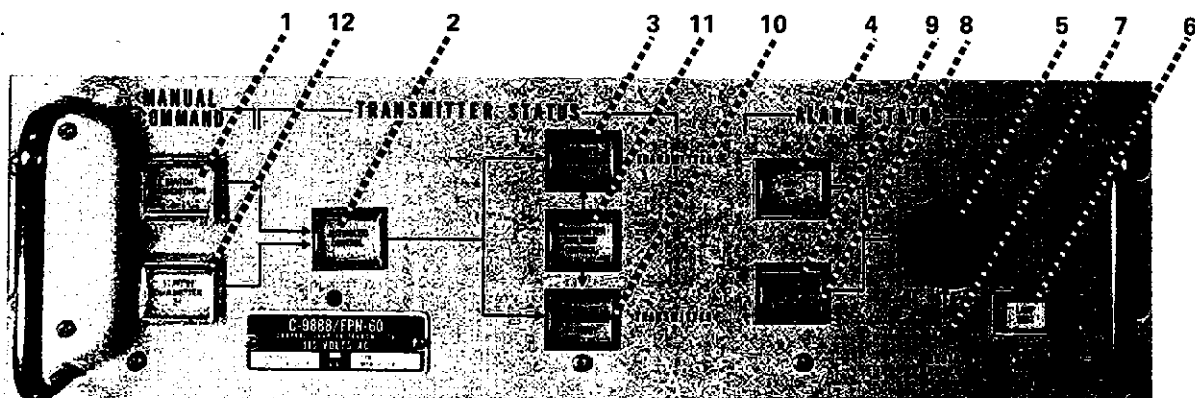

Figure 3.2. TCC Controls and Indicators
3.2.2 Transmitter Coupler Control. The following is a list of the controls and indicators of the TCC (see Figure 3.2):